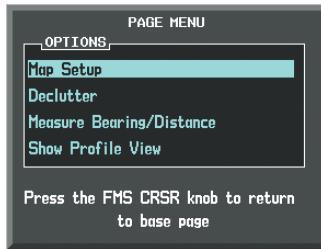

Figure 6-128 Navigation Map Page Menu
- 3) With 'Map Setup' highlighted, press the **ENT** Key (Figure 6-128).